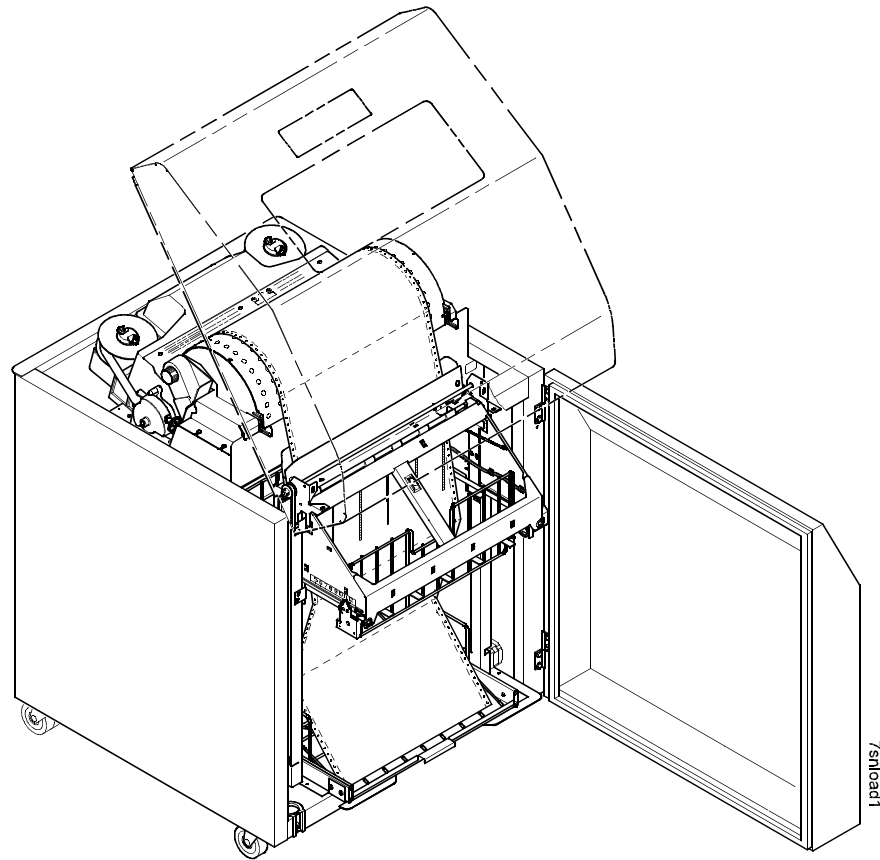

Figure 60. This figure shows the path of paper as it moves through the power stacker.
1. Press the **PAPER ADVANCE** key on the the stacker operator panel and hand feed the paper down into the paper throat. Continue to advance the paper until it reaches the wire tent and there are 3 to 5 extra sheets in the stacker. Make sure the paper passes through the throat of the paper stacker. (Figure 60.)